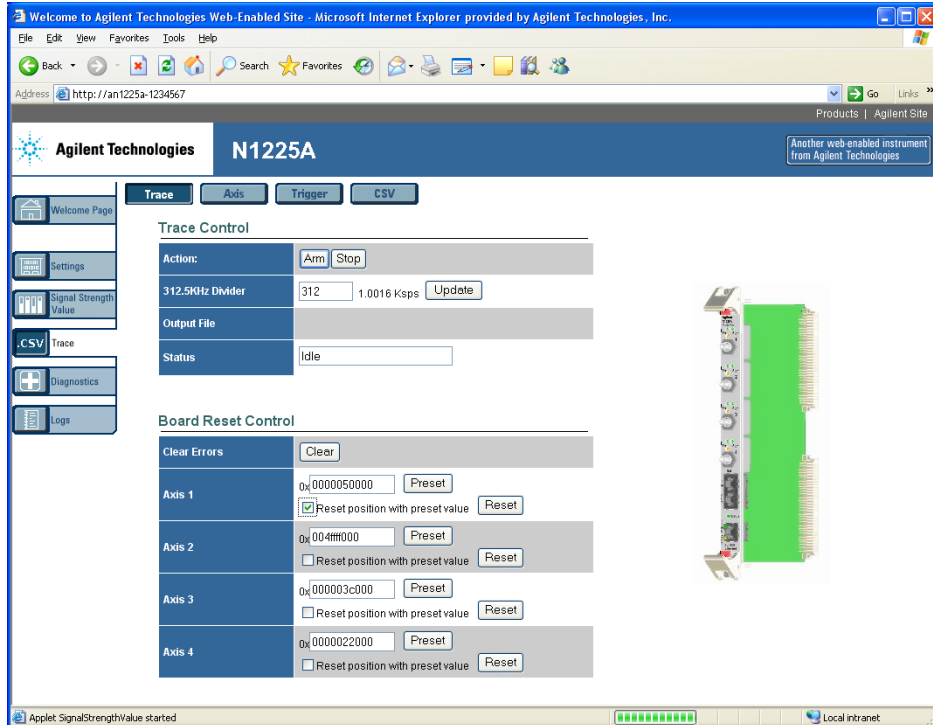

Figure 27 Trace Control web page
- 1 Begin by accessing the N1225A through the web interface, then select Trace from the left hand tab. A window similar to the one shown in Figure 27 opens.